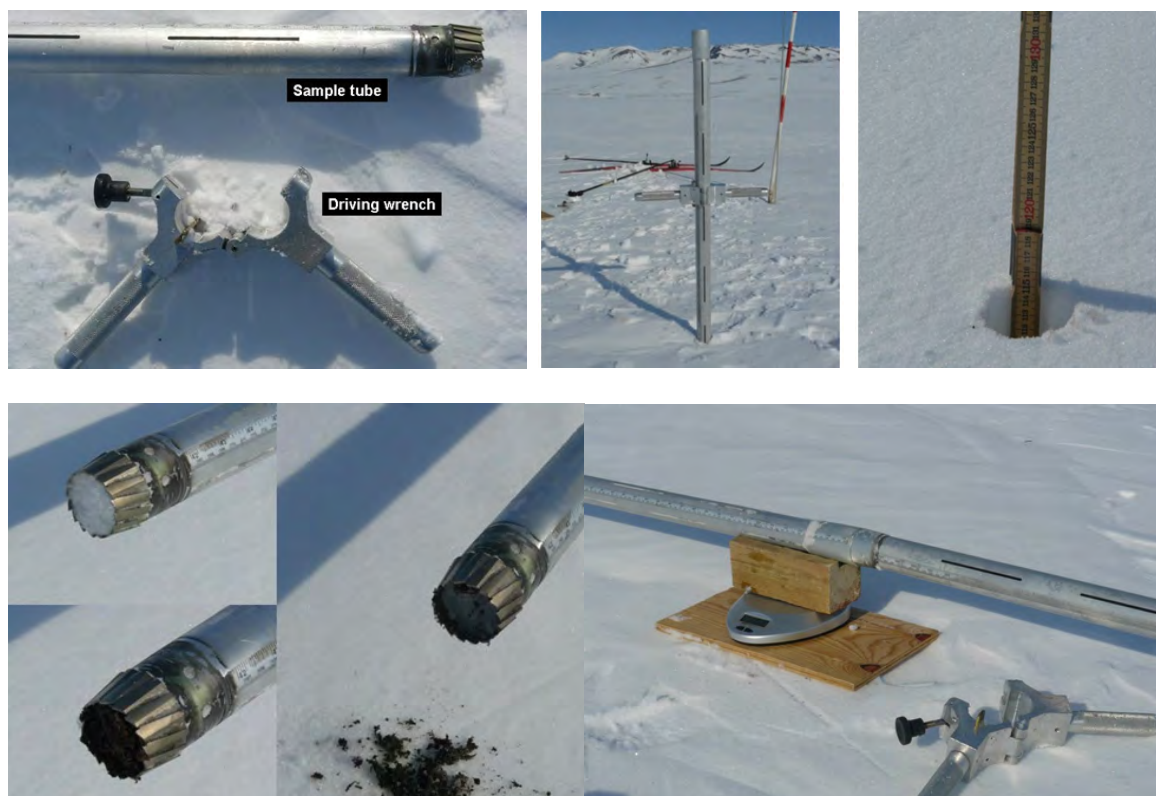

Figure 21: Snow sampling tube in use.
9. Carefully balance the sampling tube containing the core on the weighing cradle or on a scale (fig. 21). If windy, point the tube into the wind. Record the weight in the field